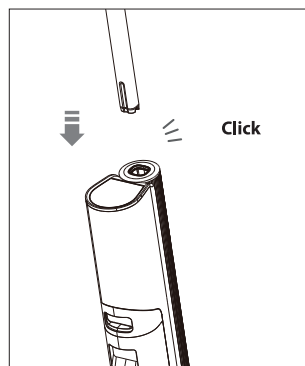

Fig. 4 – Handle assembly
- ▶ Push the handle into the appliance body as far as it will go until you hear it click into place. The handle must sit firmly in the appliance (see Fig. 4).